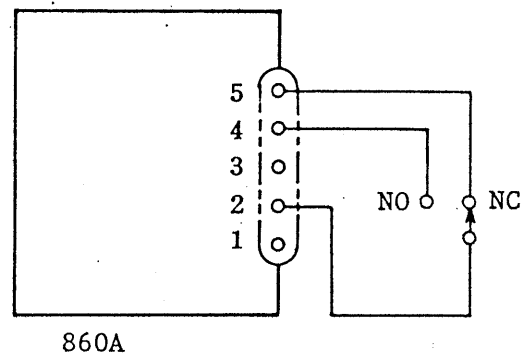

Figure 4.4
- (b) In the case of the setup shown in Figure 4.4, the test voltage is turned on when the switch is thrown to the NO Position, and instrument is forcefully reset when the switch is returned to the NC position.